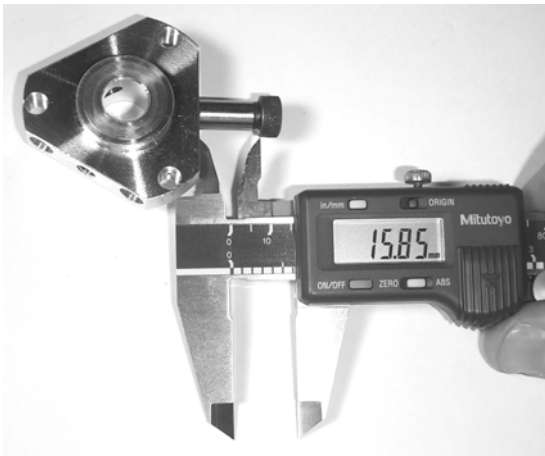

Figure C1
- 2) Effective length of the shoulder on the clutch arbor bolt (see Figure C1). Nominal is 16.00mm (0.630"). As this decreases, the spring stack needs to decrease equally. This can change due to the shoulder bolt 'setting' into the arbor (see C2)